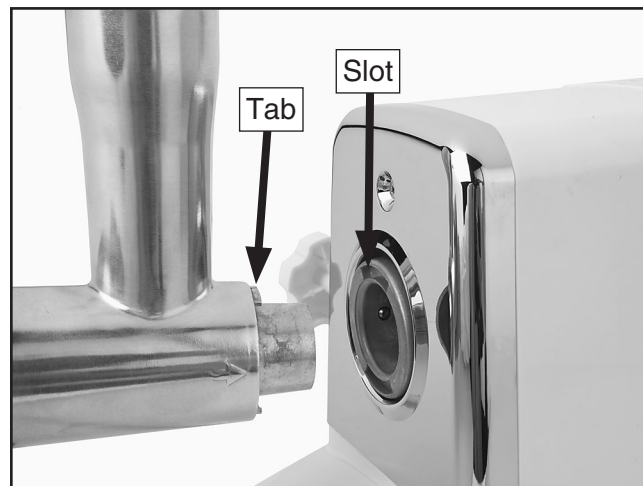

Figure 4. Installing grinder head.
3. Align the tabs on the grinding head with the slots on the grinder (see **Figure 4**), then insert the grinding head into the grinder bore and secure it with the lock knob.